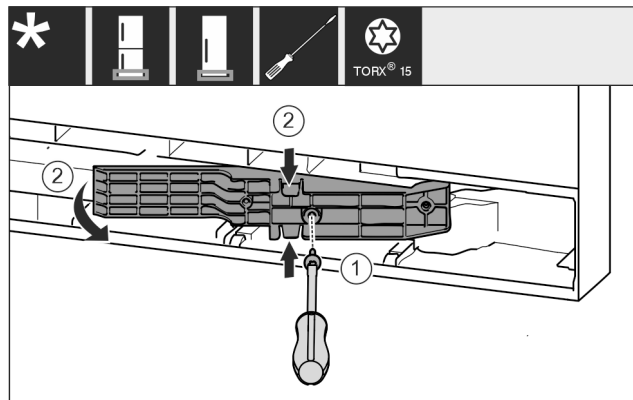

Fig. 18 *
- ▶ Skrutkovačom T15 uvoľnite skrutky. Fig. 18 (1)*
- ▶ Vytiahnite adaptér. Fig. 18 (2)*